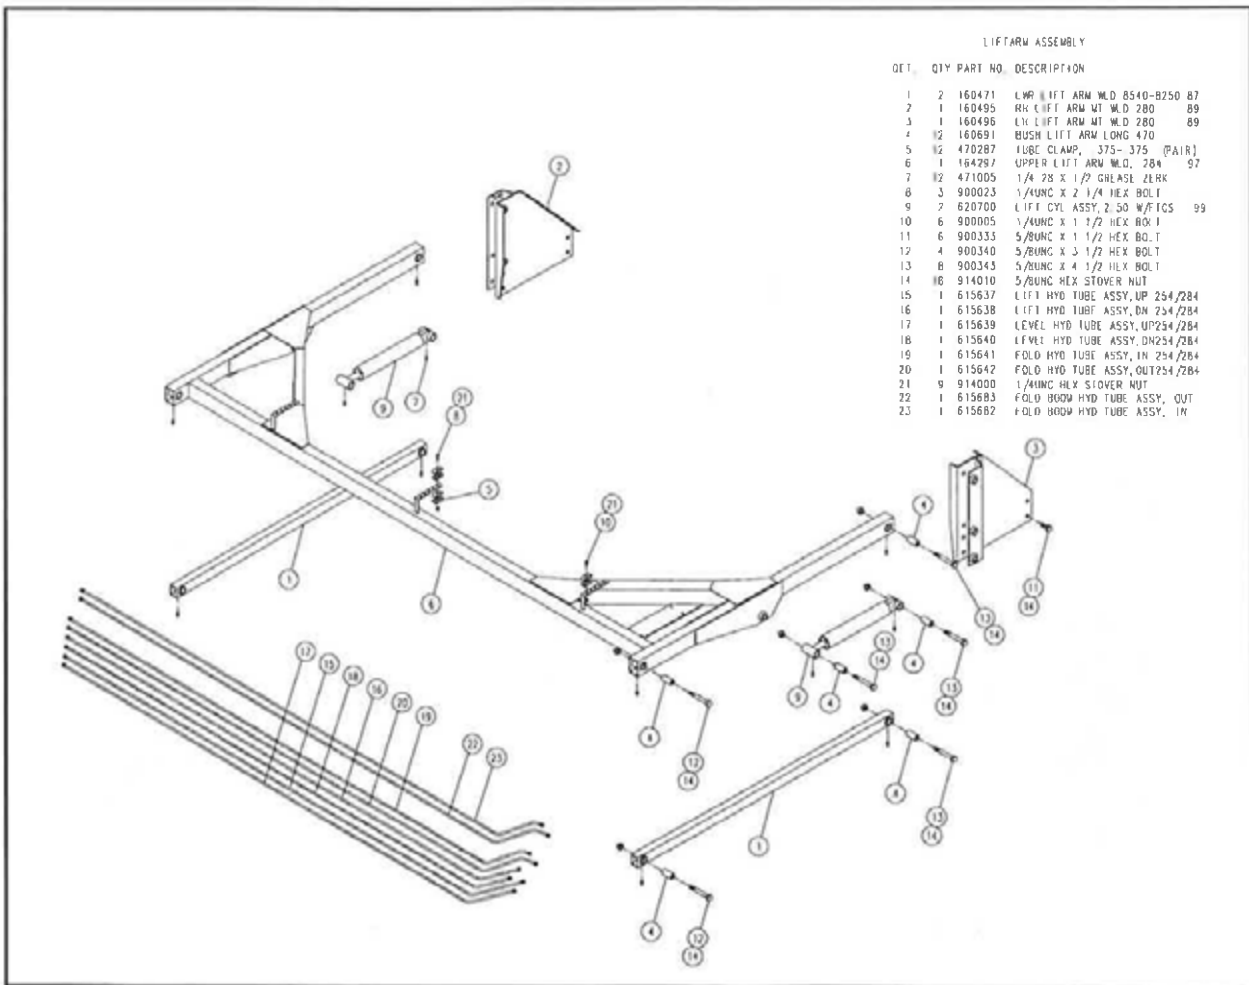

FIG 4.6
1. First, attach right hand (fig. 4.6, item 2) and left hand (fig. 4.6, item 3) lift arm mounts and tighten all bolts.
2. Install upper lift arm weldment (fig. 4.6, item 6) to lift arm mounts using proper bushings and bolts provided.
3. Install two lift cylinders (fig. 4.6, items 9), using correct bushings and bolts.
4. After installing the lift cylinders, install two lower lift arm weldments (fig. 4.6, items 1), using correct bushings and bolts.